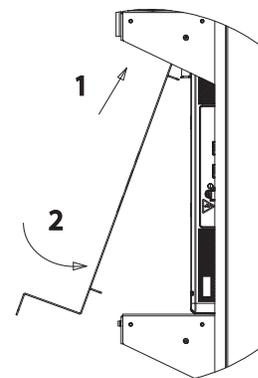

Figure 4-19. Installing Module Spacer (2 of 3)
2. See Figure 4-19. Slide spacer up between brackets.